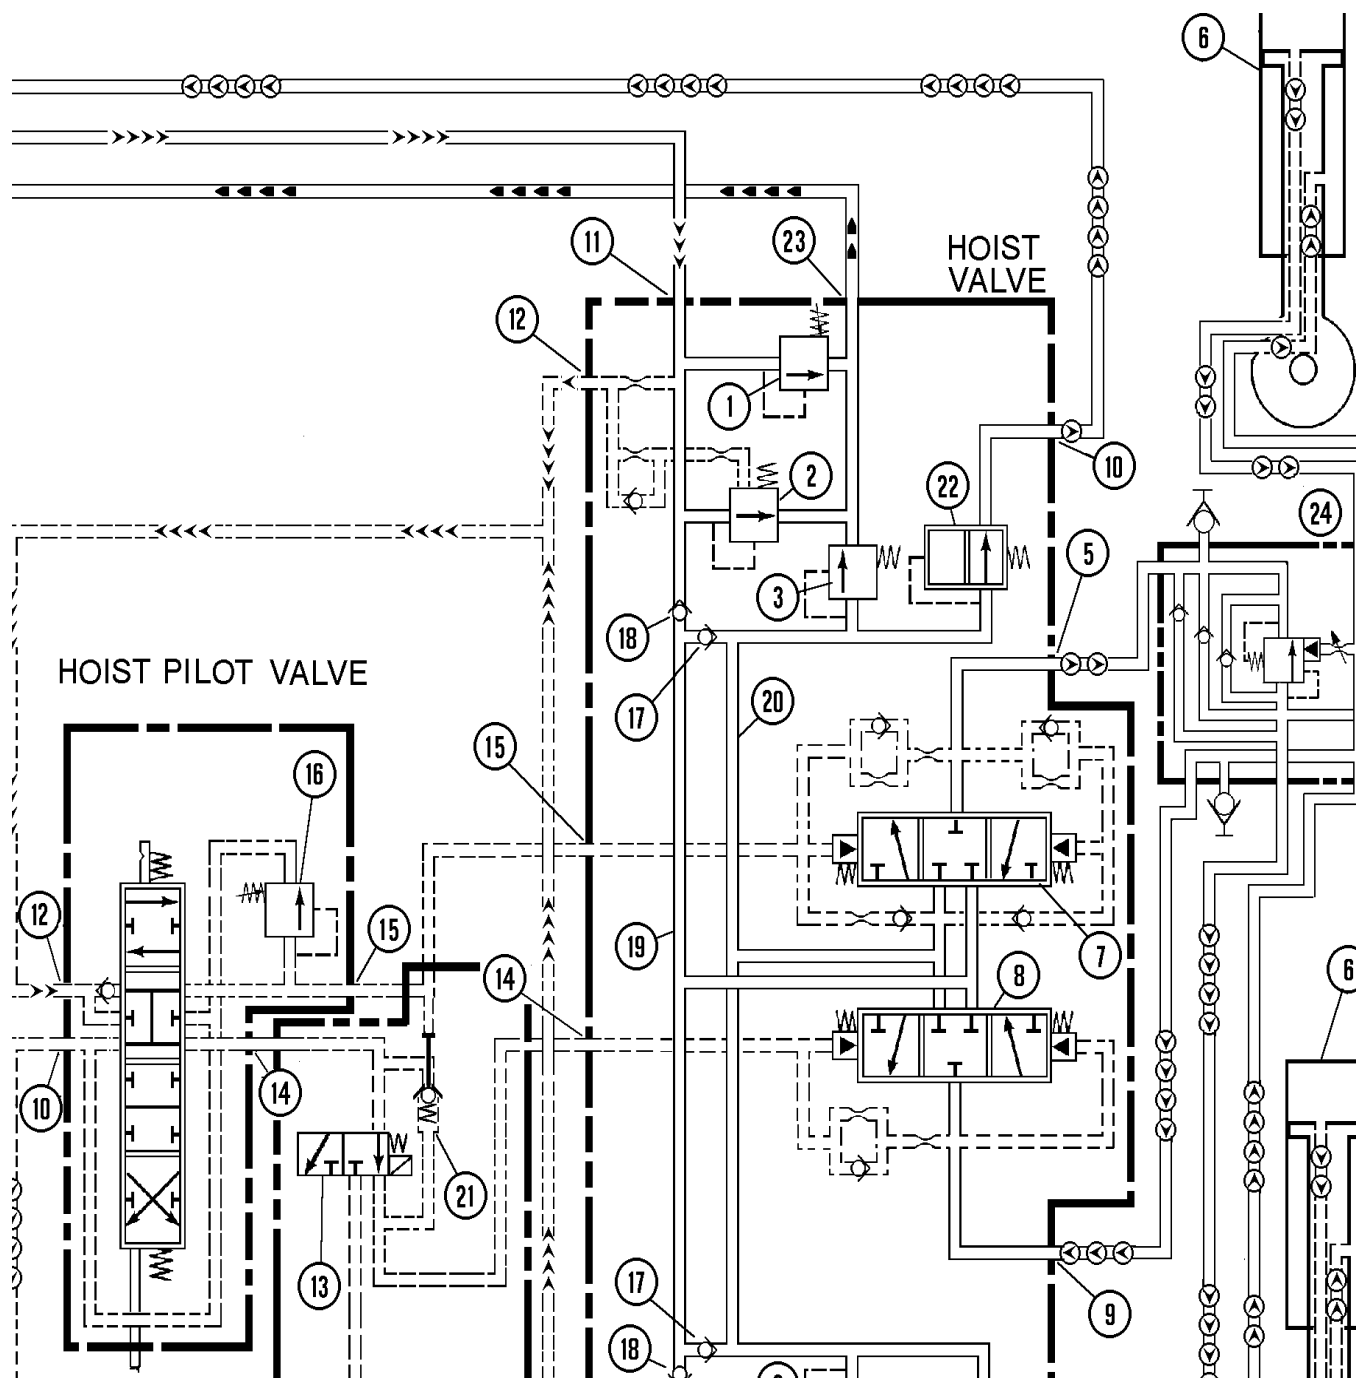
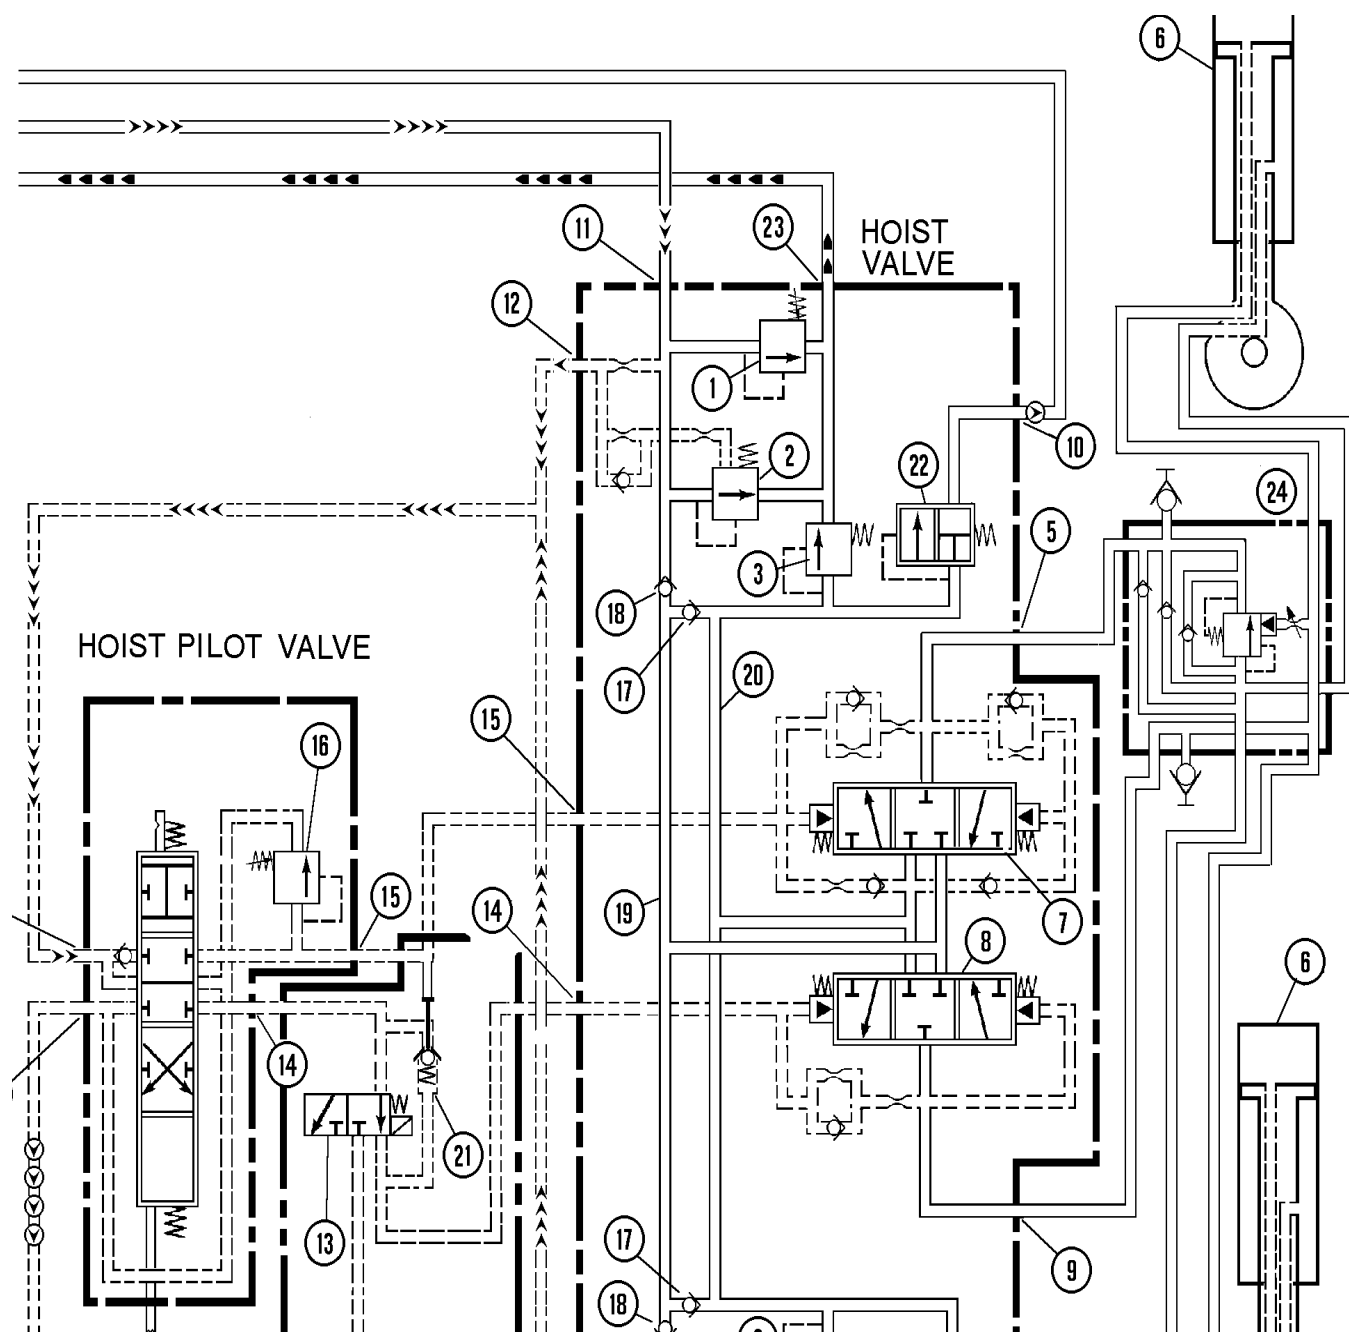

FIGURE 7-5. FLOAT POSITION
FIGURE 7-7. HOLD POSITION
The following pages describe the hoist circuit operation in the FLOAT, POWER UP, HOLD, and POWER DOWN positions. (Refer to Figures 7-5 through 7-9.)
Figure 7-5 shows the position of the hoist pilot valve when the truck body is resting on the frame. However, the hoist valve internal valves and spools will be in the position shown in Figure 7-7.
Oil from the hoist pump enters the inlet sections of the hoist valve in port (11), passes through check valve (18), and stops at the closed high pressure passage (19) at the two main spools (7) and (8) as shown in Figure 7-5.
Hold Operation (Figure 7-7)